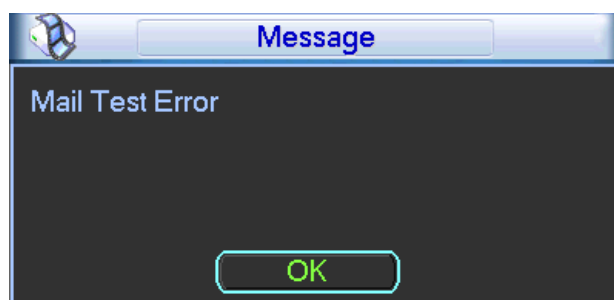

Figure 5-19
- Interval: Please check the above box to enable this function and then set the corresponding interval. System can send out the email regularly as you set here. Click the Test button, you can see the corresponding dialogue box to see the email connection is OK or not. See Figure 5-19.